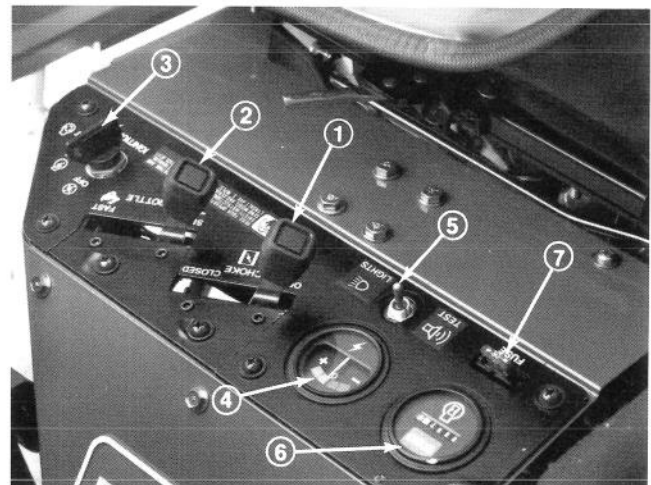

**Figure 15**
**TRACTION PEDAL** (Fig. 14) –Traction pedal has two functions; one to make the machine move forward, the other to move it backward. Depress top of pedal to move forward and bottom of pedal to move backward. For operator comfort, do not rest heel of foot on reverse, when operating forward (Fig. 15).